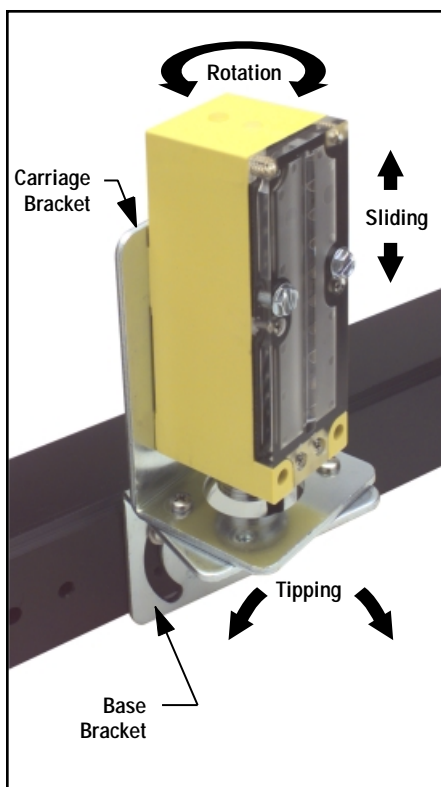

Figure 2. Achieving perfect optical alignment with the LS10; bracket SMBLS shown.
Beginning with perfect mechanical alignment, adjust optical alignment as described in steps #1 through #5. The procedure assumes use of the SMBLS mounting bracket shown in Figure 2. Only the position of the emitter will be adjusted.
- 3) Rotate the carriage bracket (to which the emitter is attached) slightly in both directions, as shown in Figure 2. Find the extremes of rotation between which the receiver's red Alignment indicator LED remains OFF. Secure the emitter midway between the extremes by tightening the two bolts that lock the two parts of the bracket together.